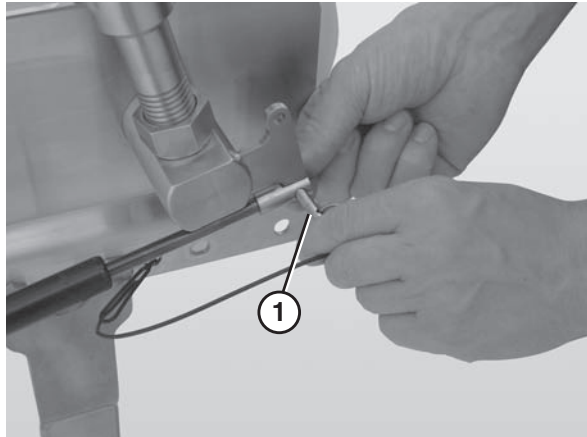

Figure 91
- Remove the pull pin (Figure 91, item 1).